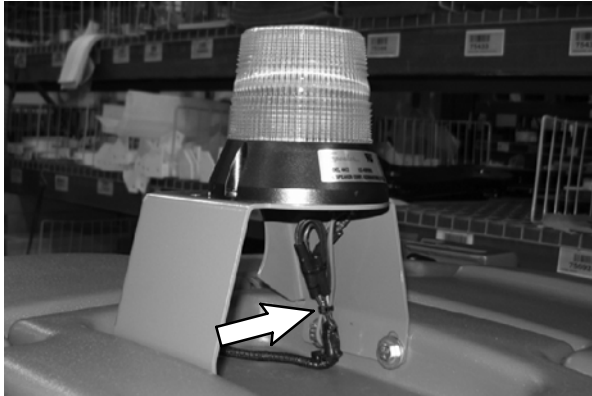

FIG. 7
8. Neatly bundle the remaining length of the warning/backup harness (8) and use a cable tie or electrical tape to hold the bundled wire together. Refer to Fig. 7.